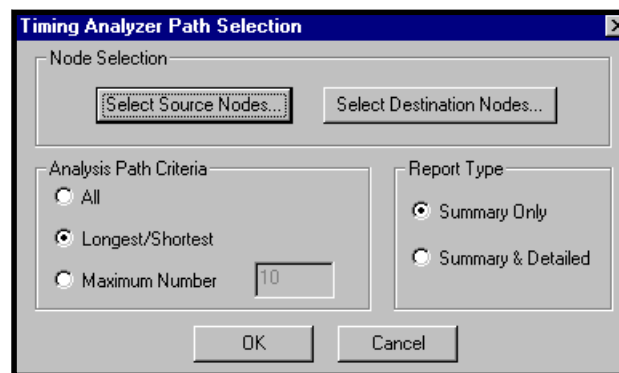

Figure 5-25. Timing Analyzer Path Selection Dialog Box
3. Select **Tools** ⇒ **Timing Analyzer Settings** ⇒ **Select Paths** to display the Timing Analyzer Path Selection dialog box (Figure 5-25).